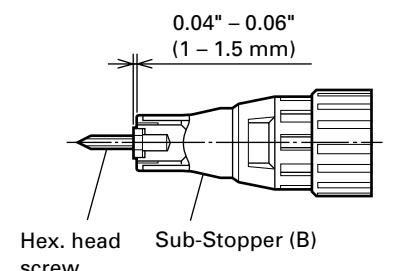

Fig. 4
**(1) For hex-head screws (Fig. 4)**